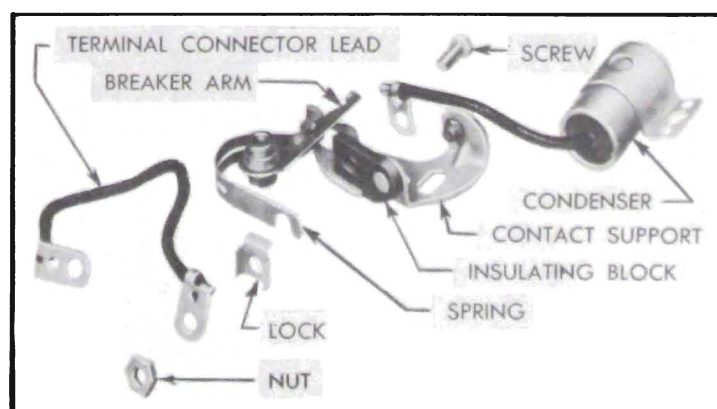

Figure 10-75—Position of Contact Points and Other Parts for Assembly
4. Attach condenser connector lead, breaker arm spring, lock, and terminal connector lead to insulating block on contact support by means of the screw and nut. The head of screw and condenser lead terminal must be on inner side of block toward contact points, and the breaker arm spring, lock, connector lead terminal and nut must be on the other side of block in the order shown in figure 10-75. Leave screw just loose enough so that the screw can be shifted in the slotted insulating block.